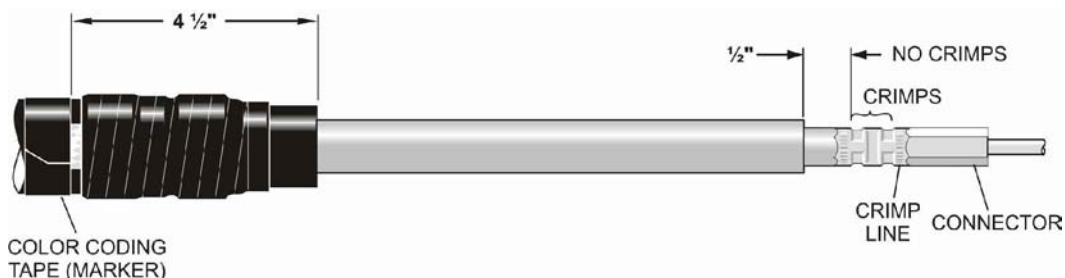

FIGURE 6
STEP 20: HOLD THE CONNECTOR FIRMLY AGAINST THE END OF THE CABLE AND CRIMP IT ONTO THE CONDUCTOR USING THE APPROPRIATE DIE. BEGIN CRIMPING JUST BELOW THE CRIMP LINE AND WORK TOWARD THE CABLE INSULATION. MAKE THE APPROPRIATE NUMBER OF CRIMPS, BUT DO NOT CRIMP THE BOTTOM 1/2" OF THESE CONNECTORS. ROTATE CRIMPS TO PREVENT THE CONNECTOR FROM BOWING. SEE FIGURE 6. REMOVE ANY EXCESS INHIBITOR OR SHARP FLASH. CRIMPING INFORMATION IS PROVIDED IN TABLE 3.